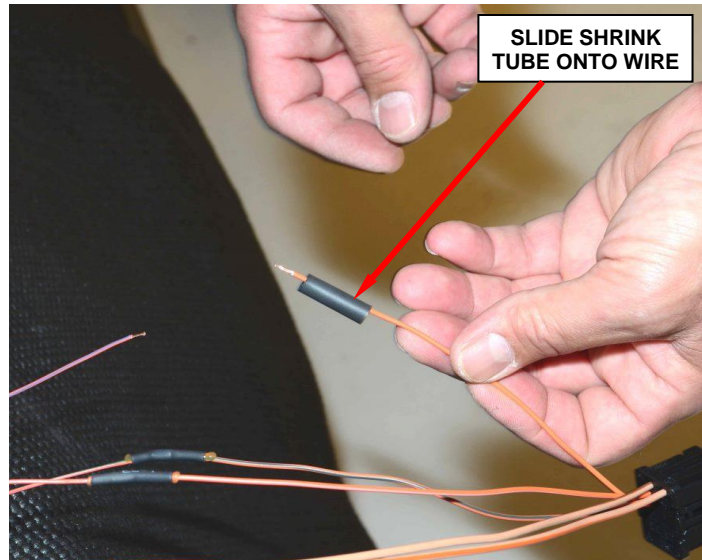

Figure 11 – Place Shrink Tube on Wire
- c. Place the black shrink tube provided in the repair kit over the cut wires (Figure 11).